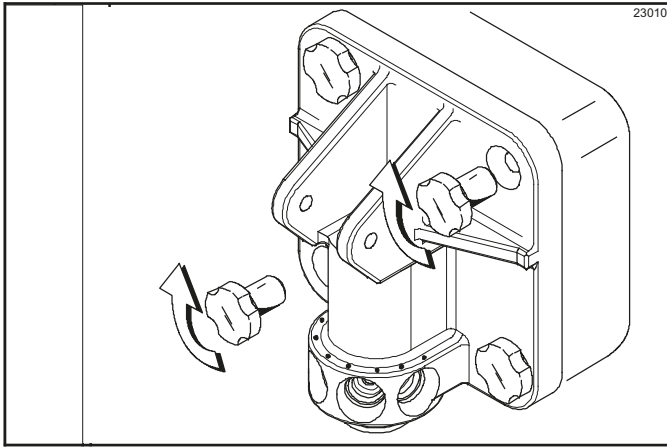

Figure 6-8
7. Install the freezer door. Position the freezer door on the four studs on the front of the freezing cylinder. Install the handscrews. Tighten equally in a crisscross pattern to ensure the door is snug. **Do not** overtighten. (See Figure 6-8.)